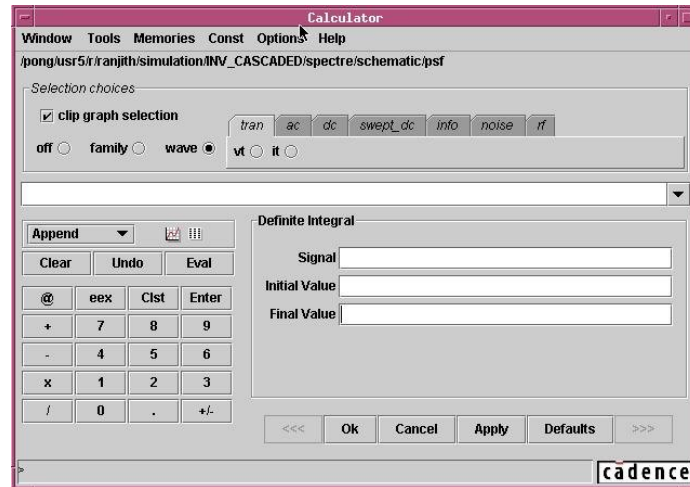

Fig. 7. Calculator Window after “INTEG” function selection
- The calculator window will appear as shown in Fig. 7.